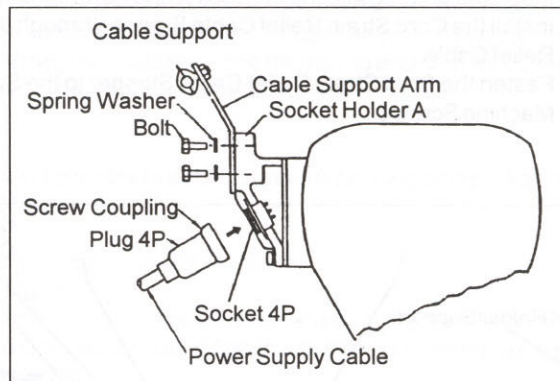

Fig. 2-13
- Refer to Fig. 2-13.
- For a manual trolley the guide wire should be positioned slightly outside the hoist's Cable Support (refer to Fig. 2-13).